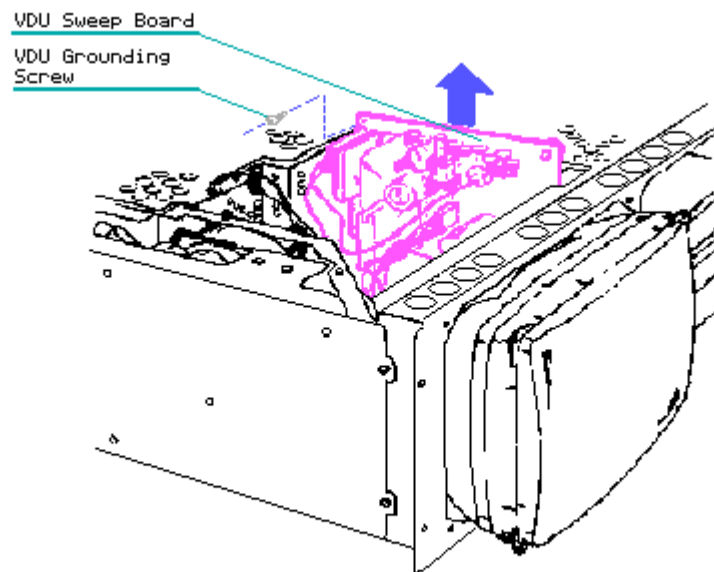

Figure 7-67. Removing the VDU Sweep Board
8. The VDU sweep board is secured to the system chassis by five PCB stand off mounts and one screw. Using a Torx screwdriver, remove the grounding screw in the upper left corner of the VDU sweep board. To remove the VDU sweep, grasp the board and gently slide it upward until the standoffs clear the mounting holes. Once the VDU sweep board clears all standoffs, slide the board out of the mounting holes and let it come to rest on the side of the VDU (Figure 7-67).